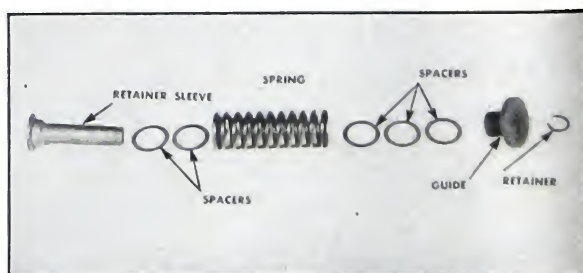

Fig. 5-209. Maximum speed spring assembly
2. Assemble the maximum spring to the maximum-spring sleeve and guide with three spacers on one end and two on the other end of spring. Refer to Fig. 5-209. This is an approximate setting and should be checked further on the fuel pump test stand. Remove or add spacers as
needed. One spacer changes the maximum speed approximately 6 or 7 rpm. See Fig. 5-209.